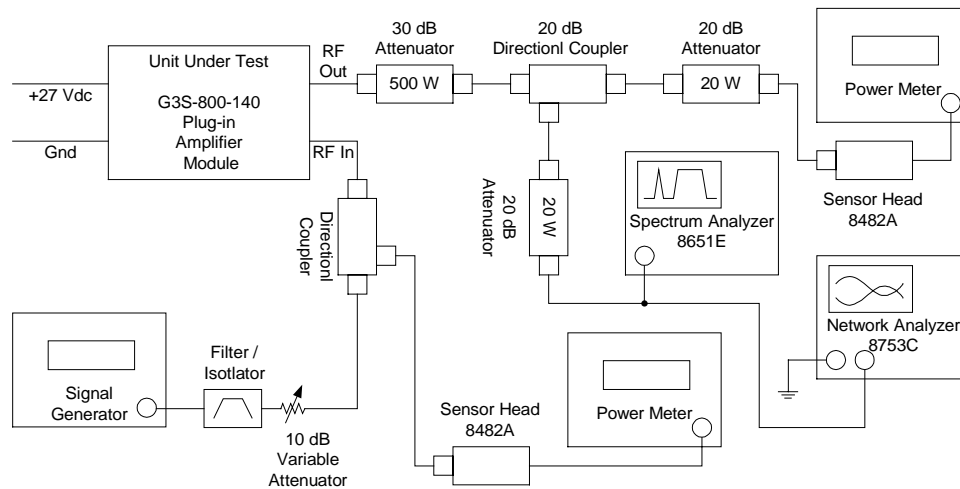

Figure 5-1 Amplifier System Test Setup Diagram
Performance testing should be conducted every 12 months to ensure that the amplifier system meets the operational specifications listed in table 5-3. Also verify system performance after any amplifier module is replaced in the field. The test equipment required to perform the testing is listed in table 5-2, and the test setup is shown in figure 5-1.
1. Connect test equipment to the amplifier as shown in figure 5-1.